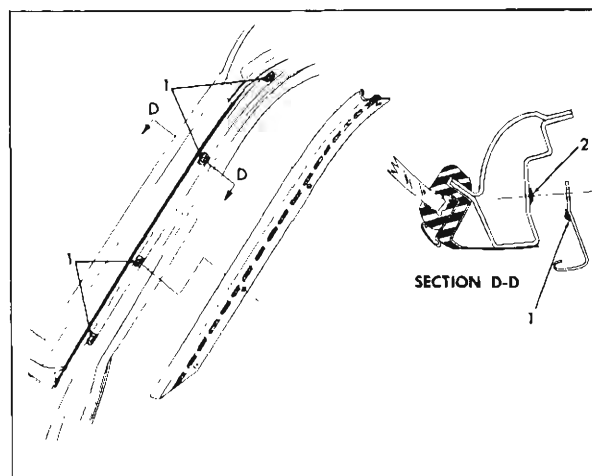

Fig. 11-15 Windshield Pillar Drip Moldings
2. To install, apply medium-bodied sealer to screw attaching holes as indicated by #1 and to drip molding as indicated by #2 in (Fig. 11-15) and reverse removal procedure.